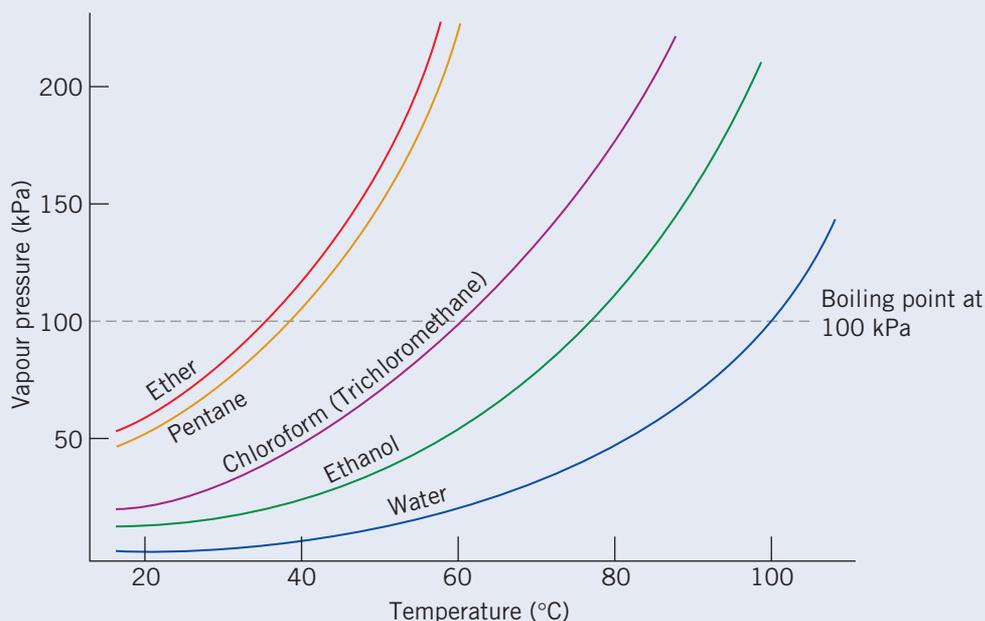

Figure 17.14 Vapour pressure of several liquids as a function of temperature
Figure 17.14 shows the variation in vapour pressure of several liquids as a function of temperature. Other liquids show similar increases in vapour pressure as the temperature is increased.
It is possible to predict the boiling points of each of the liquids in Figure 17.14 by identifying the temperatures at which the vapour pressures equal atmospheric pressure. Ether, for example, has a boiling point of about 35°C and ethanol about 78°C.
- Use Figure 17.14 to **predict** the boiling point of chloroform.